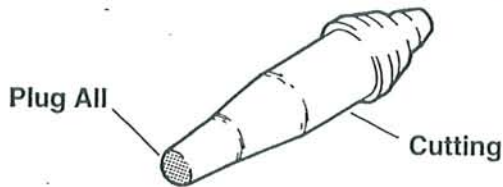

Figure 3: Plugged Cutting Tip for Leak Testing
Plugged Cutting Tip (see Figure 3)
- Install the plugged cutting tip (see Figure 3, page 5) in the torch head. Tighten the tip nut to 15-20 ft-lbs of torque.